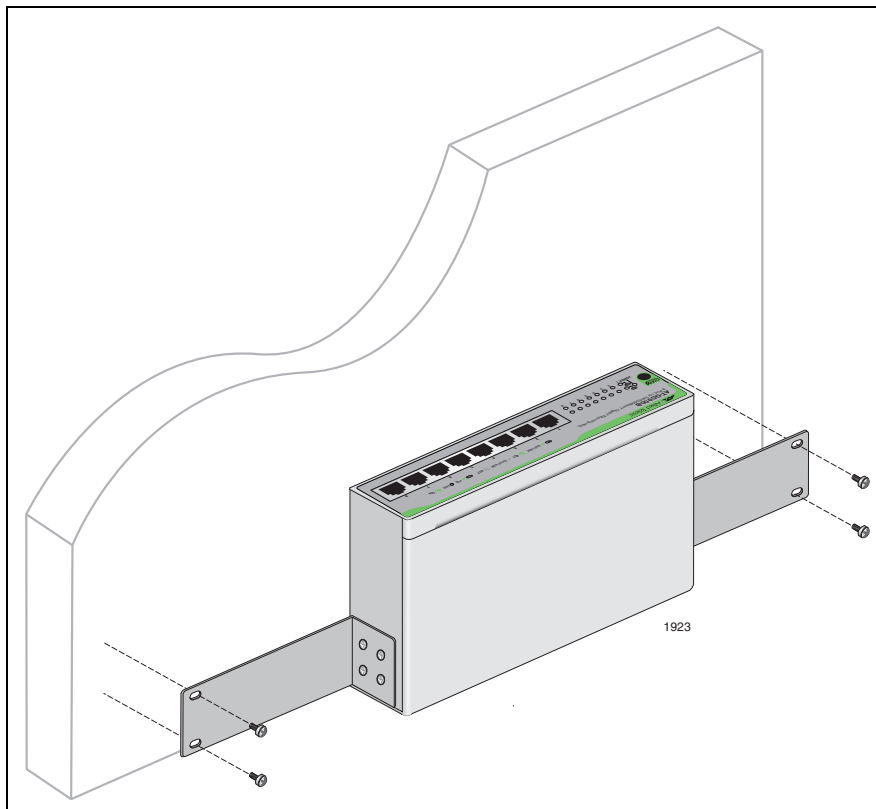

Figure 8. Attaching the switch to the wall
3. Place the switch on the wall. Then mount the switch using the plastic anchors and screws which are shipped with the product. See Figure 8 on page 35.
The switch must be mounted with the AC Power Connector facing down to conform with UL requirements as shown in Figure 8 on page 35.